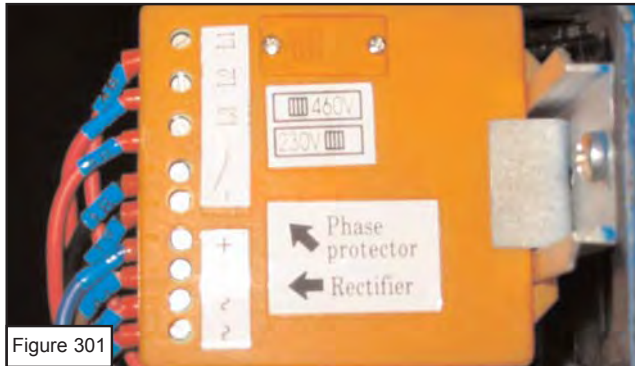

Figure 301
- 2) Locate the phase protector and rectifier box (Figure 301) and remove the two casing screws.